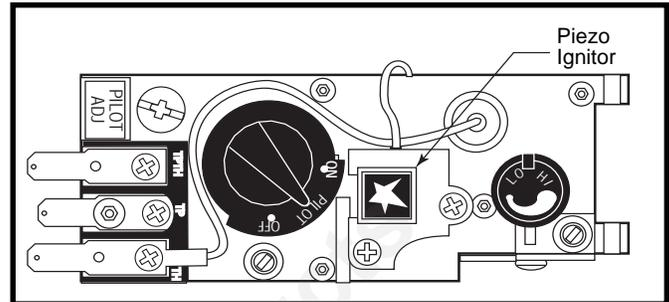

Fig. 20 UVS27R/Honeywell Control Valve in Pilot position.
4. Wait five (5) minutes to clear out any gas. If you then smell gas, STOP! Follow "B" in the safety information above on this panel. If you do not smell gas, go to the next step.
5. **HONEYWELL:** Turn knob on gas control counterclockwise  to "PILOT". Push in control knob all the way and hold in. Immediately light the pilot by pushing the button located directly to the right of the pilot knob. Continue to hold the control knob in for about one (1) minute after the pilot is lit. Release knob and it will pop back up. Pilot should remain lit. If it goes out, repeat steps 3 through 5. (Fig. 20)